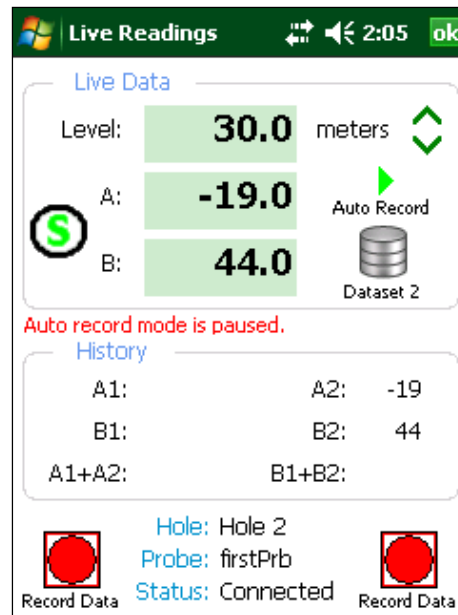

Figure 48 - Auto record paused, Dataset 2 selected
7. Tap the “Dataset 1” icon and observe that the red status text message will change to “Auto record mode is paused” and the “Pause” icon will change to the “Play” icon while “Dataset 1” becomes “Dataset 2” (see Figure 48).